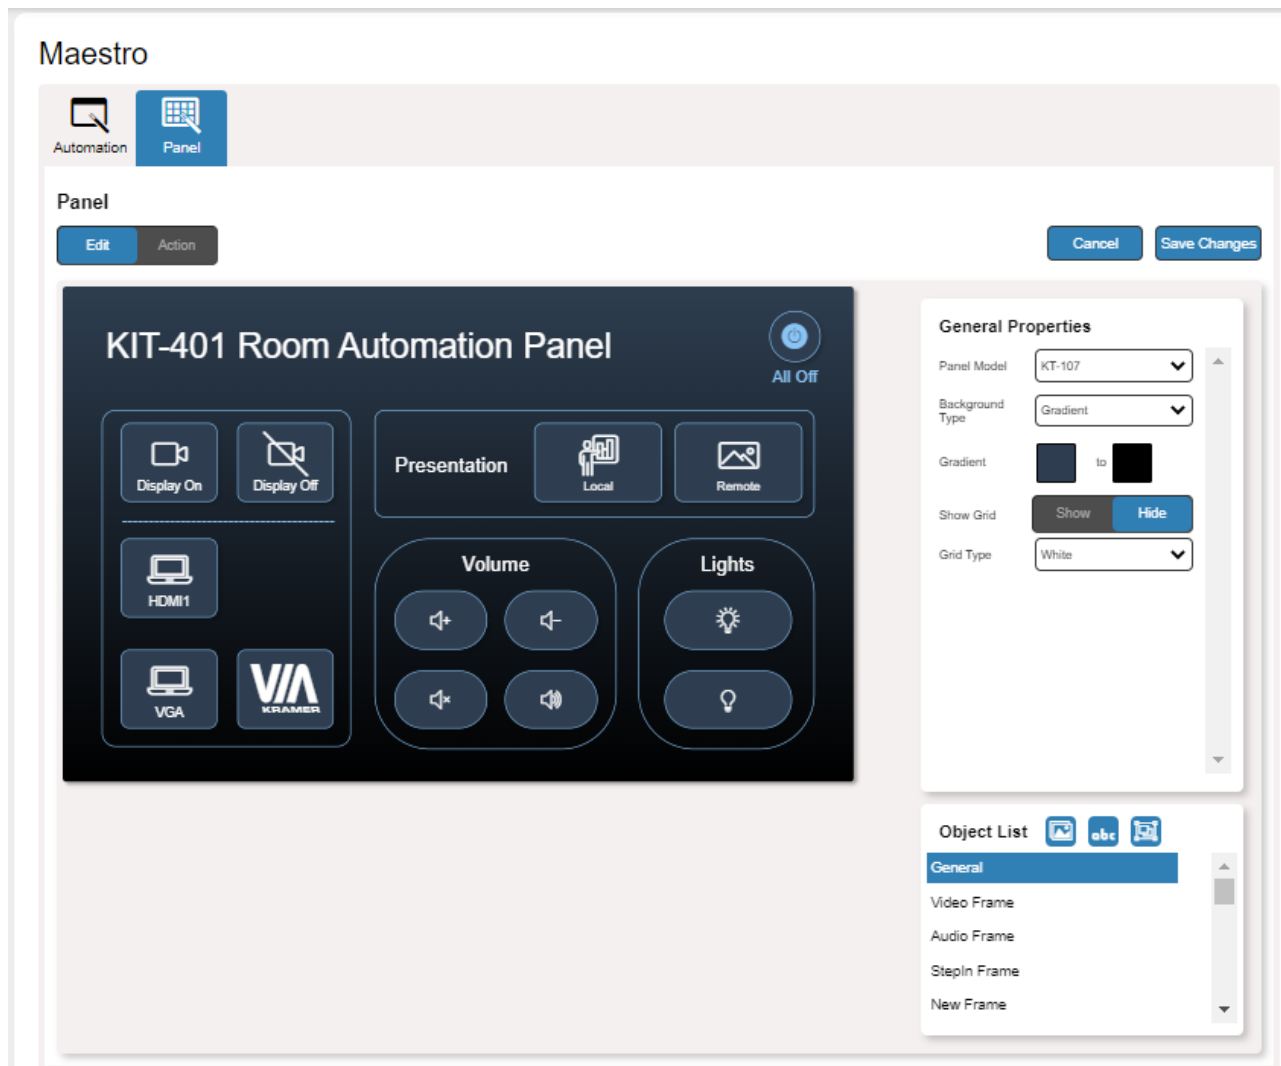

Figure 33: Automation Page – Editing Panel Window
3. Click **EDIT**. Edit Panel window appears (see Figure 33).